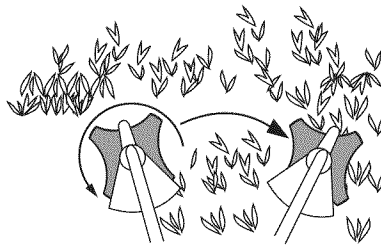

Fig. 22
- Swing the unit into material to be cut from your left to your right (Fig. 22).